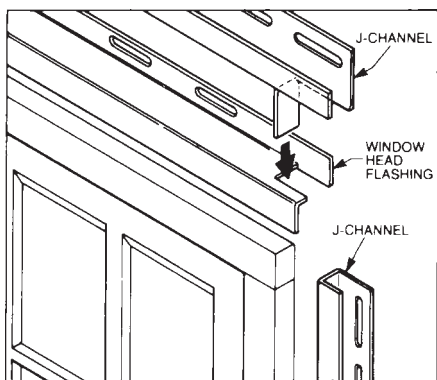

FIG. 11 Installation of Door and Window Trim
9.2.3.2 Across the top install head flashing (optional) and J-channel that extends to the outer edges of the exposed legs of the side J-channels. Cut out each end of the head flashing to match the contour of the side J-channels and fasten in place. Cut along the bends of the J-channel in 3/4 in. (19 mm) from each end, bend down the resultant tabs of the web, insert them into the side J-channels and fasten in place as shown in Fig. 11.